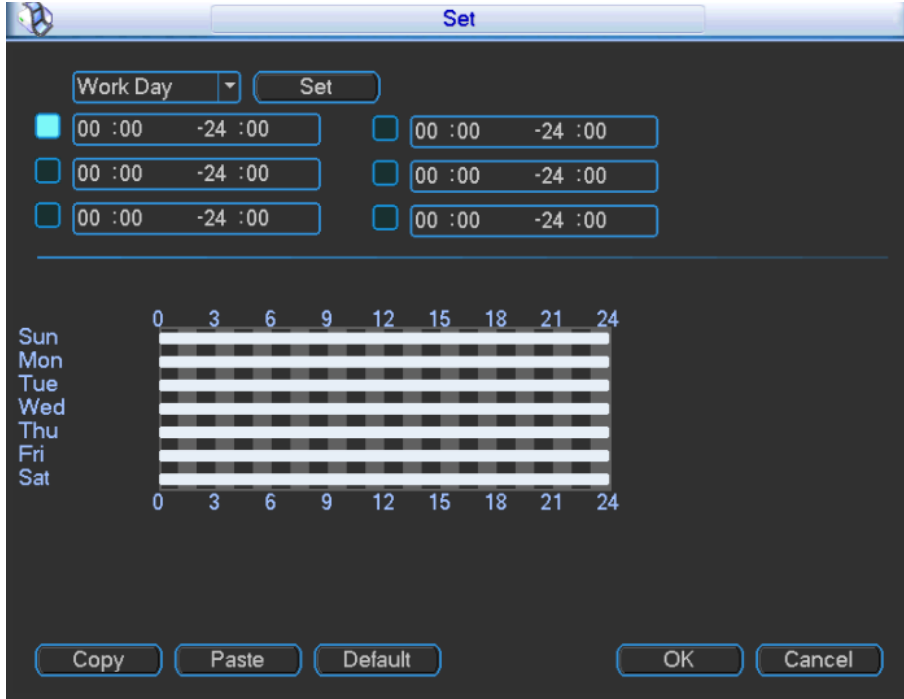

Figure 3-55
1. From the pull-down menu, select work day or free day, as shown in Figure 3-55.
3. Click "Save" to return to Figure 3-55.